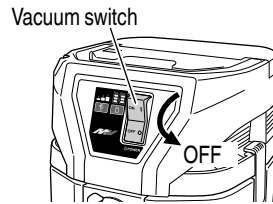

Fig. 8
- Confirm that the vacuum switch is OFF. (Fig. 8)**